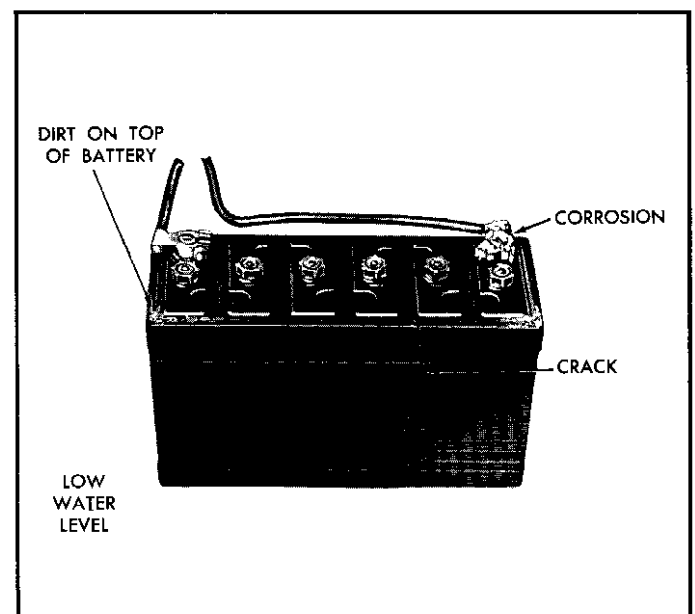

Fig. 11-3—Visual Inspection of Battery
- Dirt or moisture covered battery. The rate of discharge will be greater than normal if a considerable amount of electrolyte had been spilled over the battery or if the top of the battery is found covered with dirt. It is important that the battery be kept clean at all times. See figure 11-3.